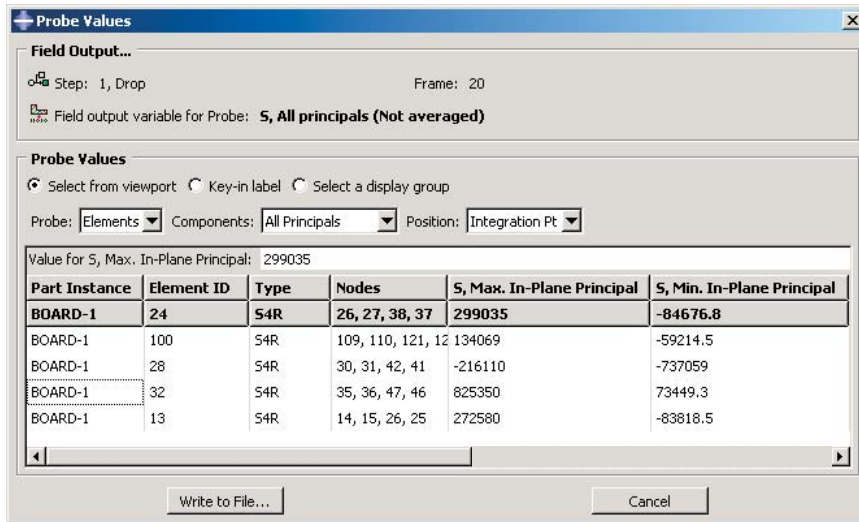

Figure 13–5 Probe Values dialog box with all direct components displayed for Mises stress.
- The **Probe Values** dialog box now enables you to display all of the component values for a tensor or vector variable and to write these values to a file. Figure 13–5 shows the probe functionality displaying all of the direct components of Mises stress. The figure also illustrates the reorganization of options in the **Field Output** and **Probe Values** portions of the dialog box. These options now take up less vertical space, which enables you to minimize the size of the dialog box and display a larger amount of the viewport as you pick values.